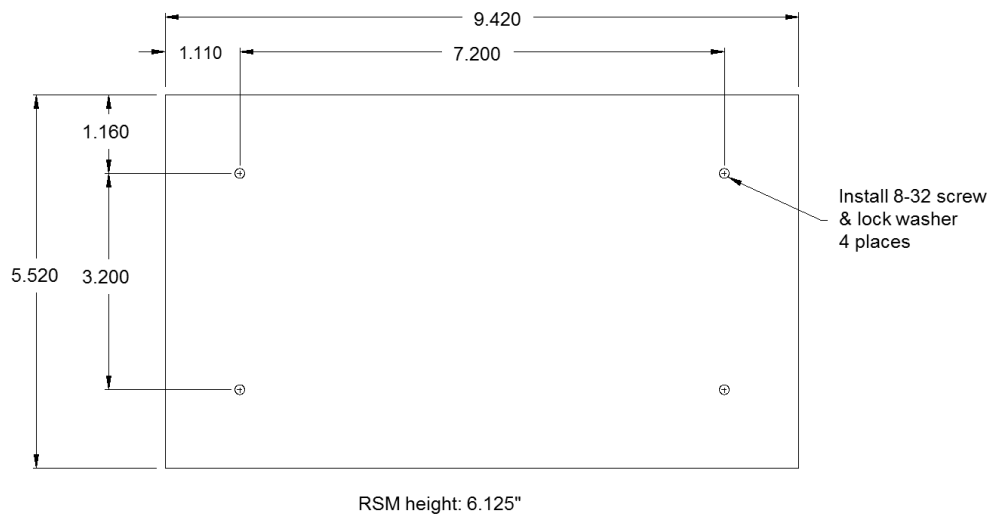

Fig. 7, RSM bolt hole pattern (bottom view)
Installation of the RSM chassis requires four (4) clearance holes for the #8-32 threaded screws. See Figure 7 for the bolt hole pattern (dimensions are shown in inches).
Mount the Model 3-SPM-N1-SS on a flat surface. Follow the bolt hole pattern on the mounting plate (see Figure 7). Connect the inlet and outlet ports via the ¼" male VCR connectors. Connect the main power to the analyzer using a field supplied power cord.